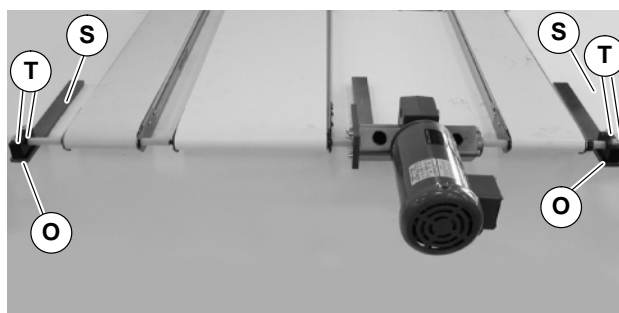

Figure 22
- 16.** Attach bearing blocks (O of Figure 22) to bearing support bars (S) with screws (T). Tighten screws (T) to 45.5Nm.